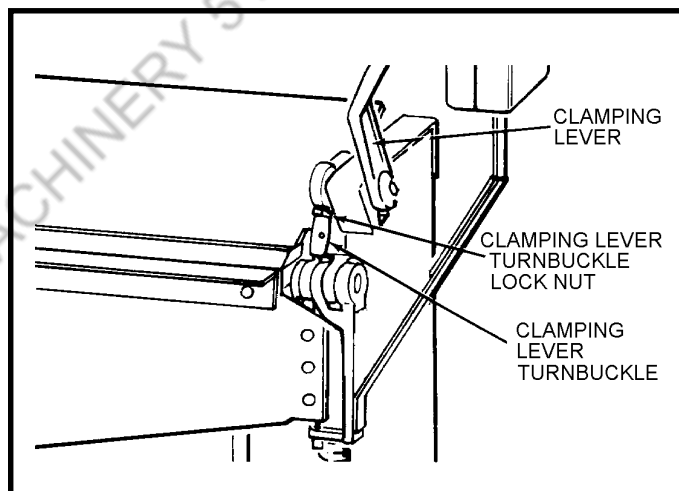

Figure 4. Regulating Clamping Pressure
2. Check gauge of material to be formed to be sure it is within rated capacity of your brake. Place small sample of work piece on Lower Beam Jaw and clamp in position by moving the Clamping Lever forward. Sample should now be held firmly in position. To adjust for more or less clamping pressure, move Clamping Lever to unlocked (up) position, loosen the Clamping Lever Turnbuckle Lock Nut (figure 4) on both ends of brake and adjust the Clamping Lever Turnbuckles as necessary to achieve firm clamping pressure. Retighten the lock-nuts.
7. With Clamping Lever in unlocked (up) position, adjust Clamping Lever Turnbuckles (figure 4) and Lower Beam Lift Spring Rod Adjusting Nuts as necessary to obtain desired clamping pressure. Pressure should be firm enough so metal will not slip when clamped.